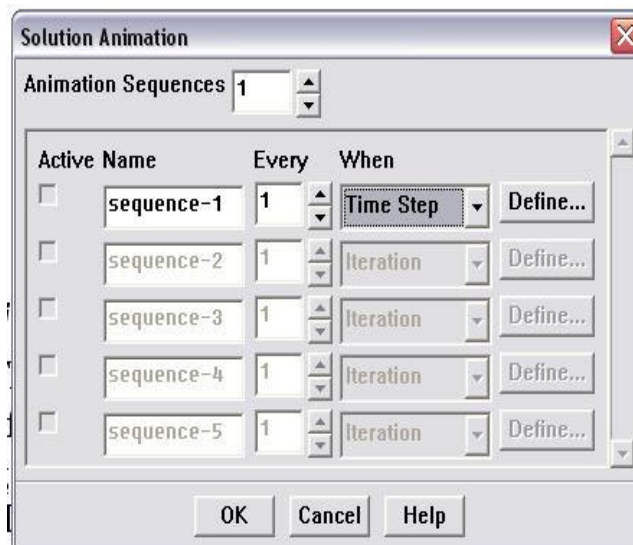
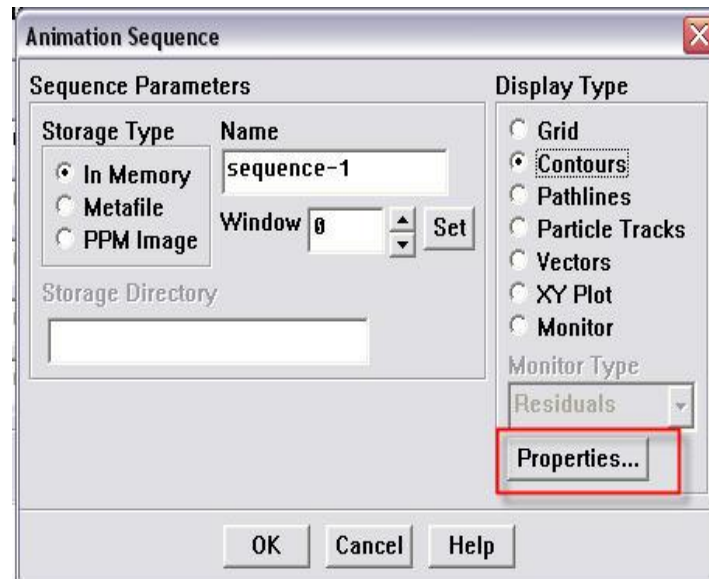

Figure 3.17 The Solution Animation panel
Figure 3.18 The Animation Sequence panel
1) In the Fluent menu bar select **Solve >> Animate >> Define**, a **Solution Animation** panel will appear (Figure 3.17). Increase the **Animation Sequences** value to the number of animation sequences you want to specify. Enter a name for the sequence under the **Name** heading. Indicate how often you want to create a new frame in the sequence by setting the interval under **Every** and selecting **Iteration** or **Time Step** in the drop-down list below **When**. Click the **Define** button to open the Animation Sequence panel (Figure 3.18).